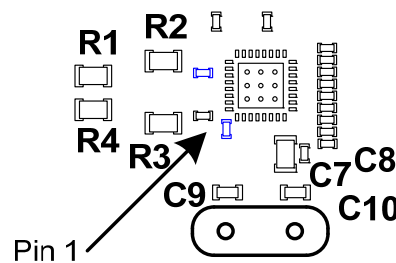

Figure No. 3
2. These caps are shown as C7 & C8 in Figure No. 3 below.
1. Place the 25.000 MHz crystal and the associated 15 – 33 pF capacitors as close together as possible and as close to the LAN88710 QFN (XTAL1, pin 5 & XTAL2, pin 4) as possible. They should form a tight loop. Keep the crystal circuitry away from any other sensitive circuitry (address lines, data lines, Ethernet traces, etc.). Refer to Figure No. 3 for crystal component placement (C9 & C10).